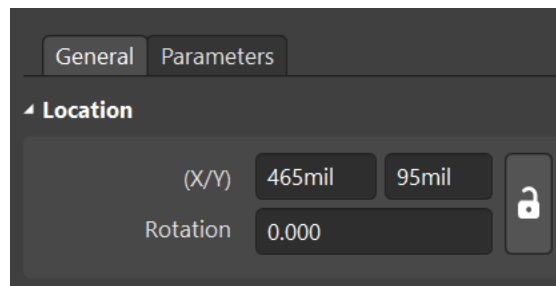
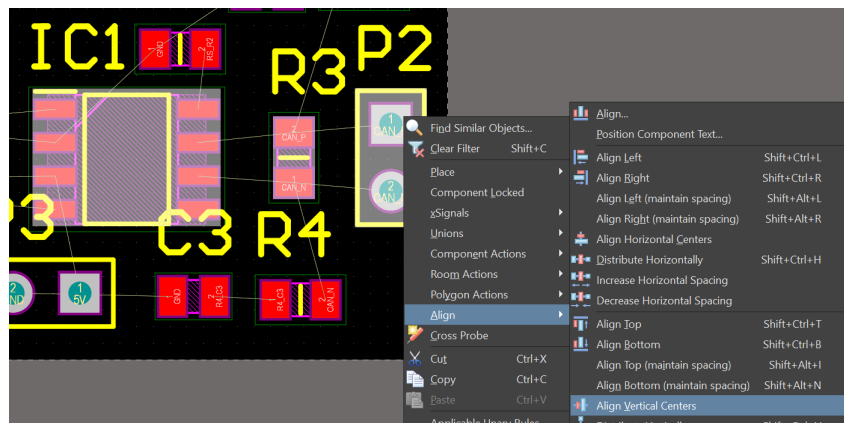

Figure 17: Screenshot of X/Y location settings in Properties panel
Figure 18: Example of using the Align Vertical Centers alignment type
- A useful thing to do when fine-tuning your layout is to align components so that they aren't placed haphazardly. There are a few ways to do this. You can either double click a component and change its X/Y location in its properties (as shown in Figure 17) so it is at the same X or Y position as the component you are aligning with. Or, the easier option is to use the align tool. Simply select the components you would like to align, right click one of them, and select **Align** then whichever type of alignment you would like. In the example shown in Figure 18, we want the components to be at the same vertical height, so we can select **Align Vertical Centers**. If you want them to be at the same horizontal position, you can select **Align Horizontal Centers**. Once you select your alignment type, click the component you would like the alignment to be referenced to, then the other components should fall into place automatically.